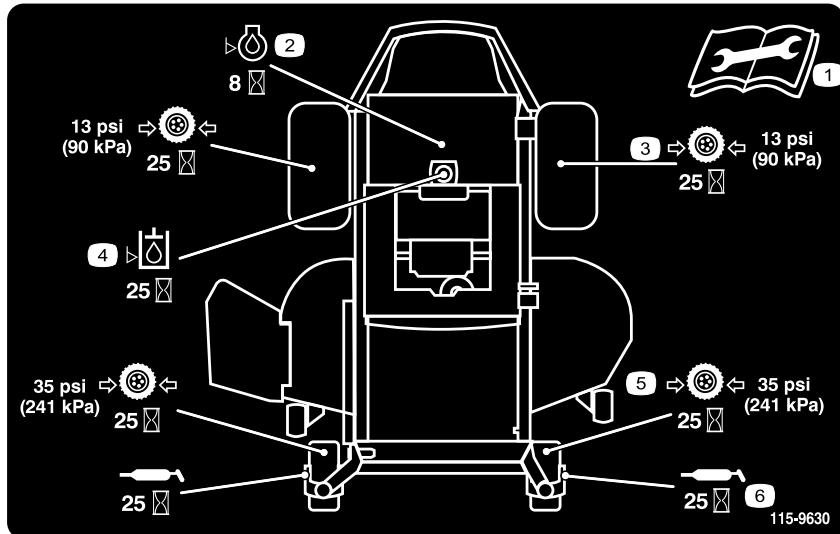
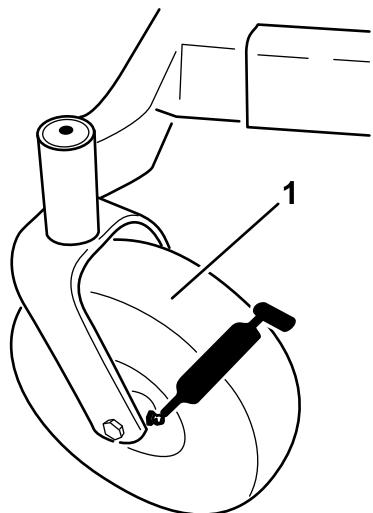

Figure 32
Figure 33
3. Clean the grease fittings (Figure 33 and Figure 32) with a rag. Make sure to scrape any paint off of the front of the fitting(s).
4. Connect a grease gun to each fitting (Figure 33 and Figure 32). Pump grease into the fittings until grease begins to ooze out of the bearings.